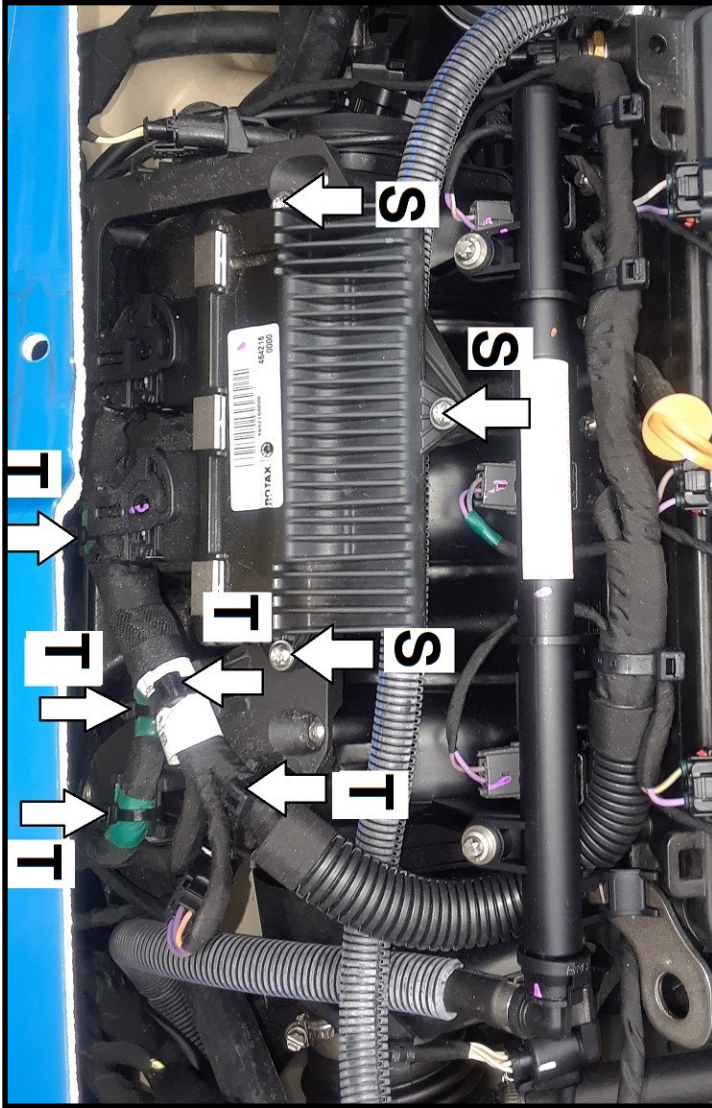

Figure 1
Remove plastic engine cover. Cut zip ties (5) holding wire harness to intake manifold. Remove screws (3) and remove ECU from intake manifold. (Figure 1)